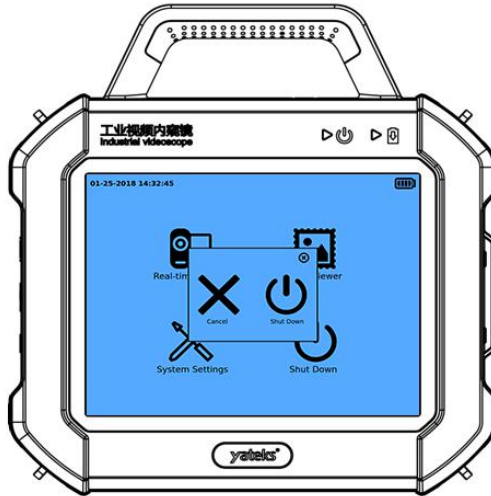

Figure 9.5 Power-off demonstration
3) Click “Shutdown system” and the shutdown selection dialogue box will pop up (as shown in Figure 9.5). Click “Power off” and then the power-on indicator if off. Click “Cancel” and then return the main menu.